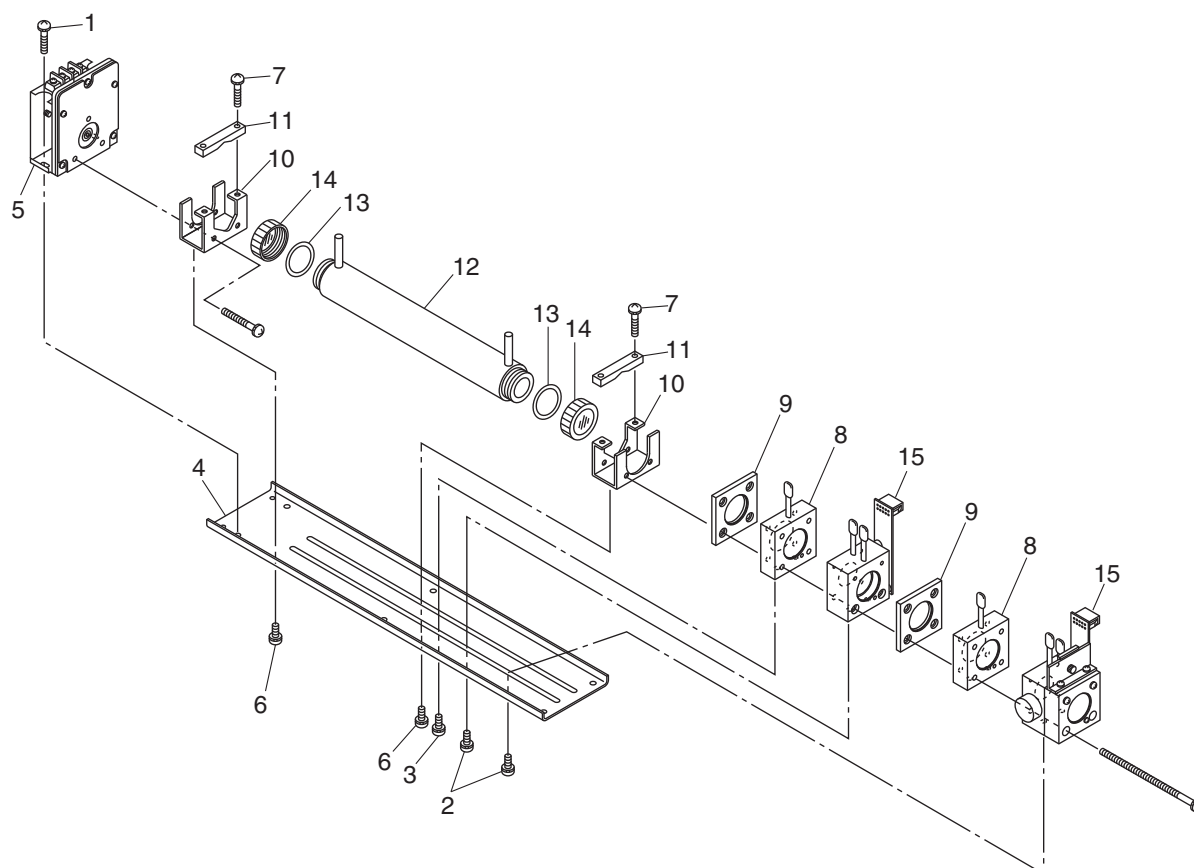

Fig. 7-1 Configuration of measuring unit (pipe cell)
(1) How to remove pipe cell (See Fig. 7-1)